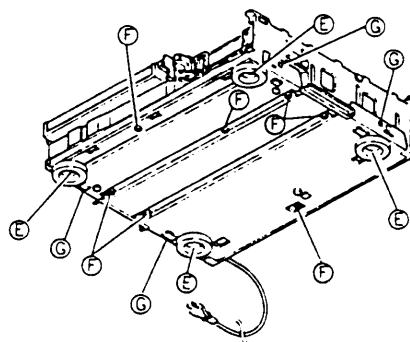

Fig. 1-1-3 Bottom cover
1. Refer to Fig. 1-1-3. Take out 4 screws (E) and 7 screws (F).
2. Disengage 4 tabs (G) and remove the bottom cover.